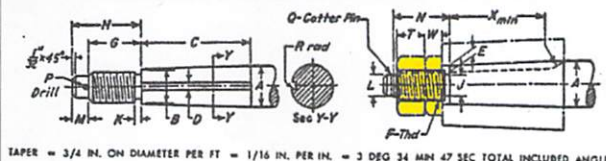

FIG. 1-PROPELLER-SHAFT ENDS
- jam nut (thin - identified as "W" in Figure 1 of SAE J755, *Marine Propeller - Shaft Ends and Hubs*),
- plain nut (thick - identified as "T" in Figure 1 of SAE J755, *Marine Propeller - Shaft ends and Hubs*), and